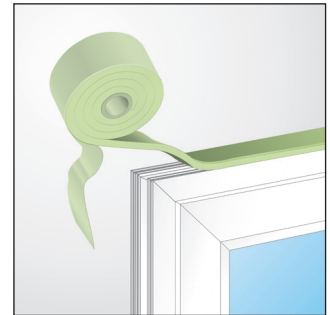

Fig. 2
- Apply a separate length for each side to be sealed, bonding with the aid of the self-adhesive strip (See Fig. 2). Normally, the TP651 is applied to the head and two sides to allow for insertion of packers under the cill.